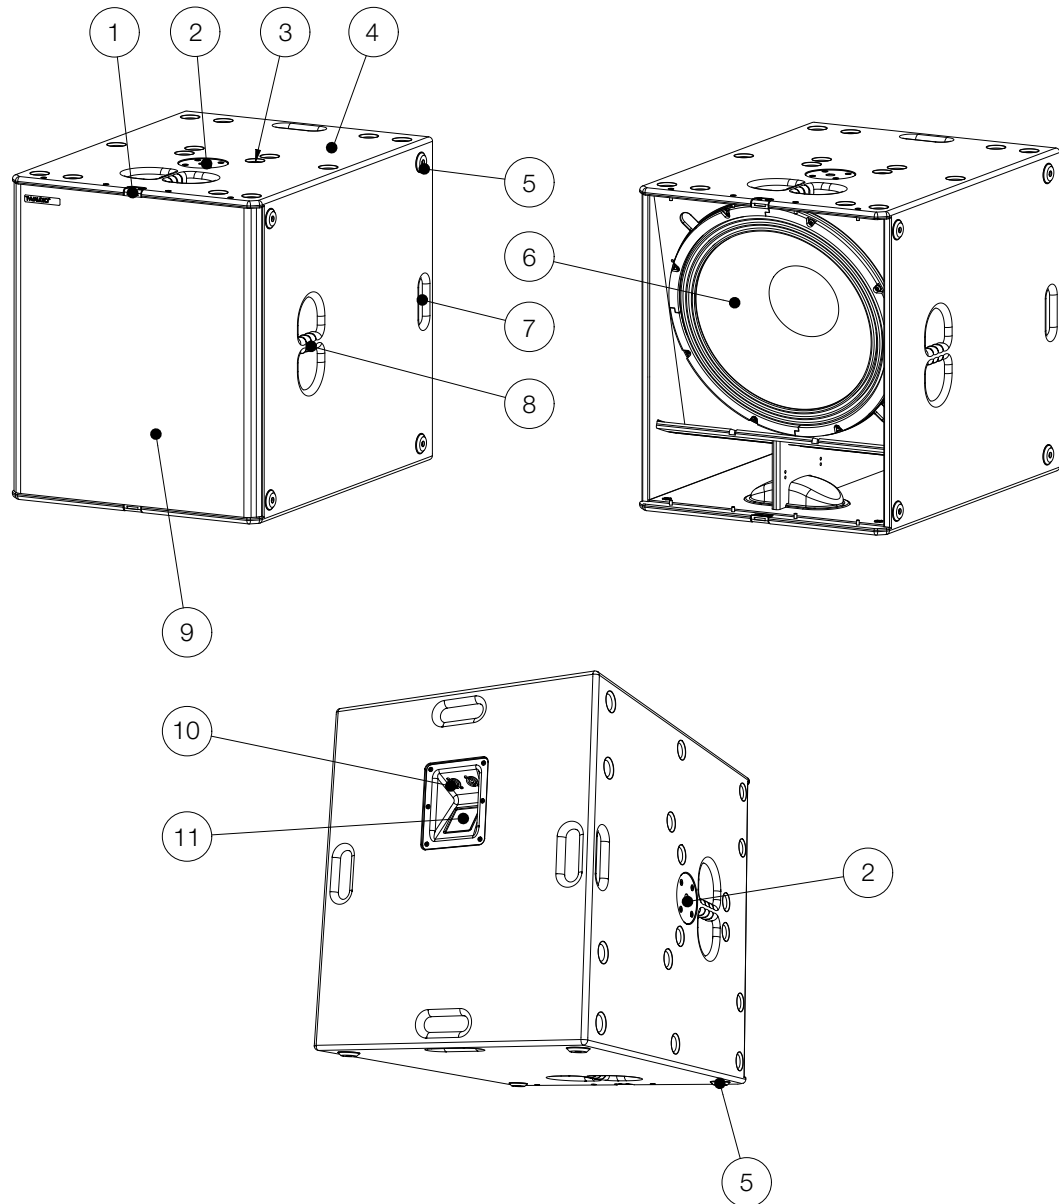

Figure 2.1 - Overview B21
Make sure that the maximum load of 50kg / 110lbs for the M20 pole mount flange is not exceeded! Figure 2.1 – Item 2.
The M20 pole mount flange (figure 2.1- item 2) is not designed for side forces once mounted – do not apply any pressure from the sides.
Please note that only centered loads are allowed to be placed on the M20 pole mount flange – Figure 2.1 – Item 2.
Make sure that the existing millings for rubberfeets (Pos.2 - figure 2.1) are used for a safe stacking of the loudspeakers.